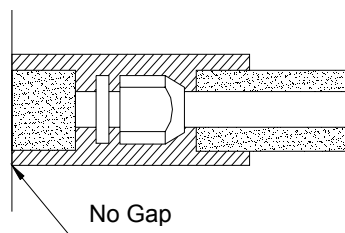
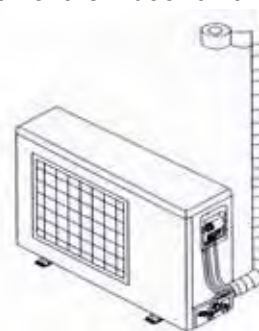

Fig.41
Fig.42
2. The joint connecting to the indoor unit must be wrapped by thermal insulation material. There shall be no gap between the connecting pipe joint and the wall of the indoor unit. Refer to Figure 41.
- (1) Use adhesive tape to bundle the connecting pipe and the cables together. To prevent condensate from overflowing out from the drainage pipe, separate the drainage pipe from the connecting pipe and the cables.
- (2) Use thermal insulation tape to wrap the pipes from the bottom of the outdoor unit until the upper end of the pipe where the pipe enters the wall. When wrapping thermal insulation tape, the later circle of tape must cover half of the front circle of tape (Refer to Figure 42).
- (3) Wrapped pipe must be fixed to wall using pipe clamps.
3. If the communication line between the wire controller and the indoor unit is surface-mounted, use 1# metallic pipe and make matching recess in the wall (refer to Figure 41); If concealed installation is adopted, 1# metallic pipe can be used (Refer to Figure 42).